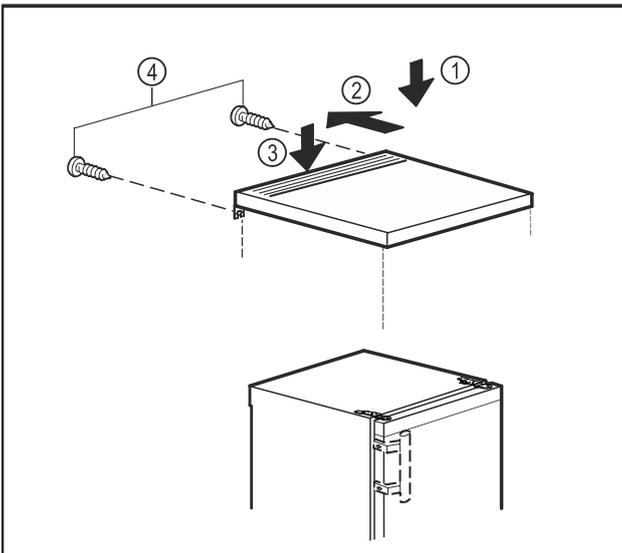

Fig. 19
- ▶ Place the tabletop on the appliance. Fig. 19 (1)
- ▶ Slide the tabletop backward. Fig. 19 (2)
- ▶ Press the tabletop down at the back. Fig. 19 (3)
- ▶ Tighten the screws on the rear side. Fig. 19 (4)